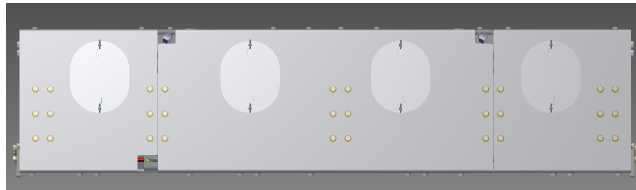

FIGURE 3 – CYLINDER MANUAL SHUT-OFF VALVE ACCESS COVER
1. Open the valve access cover to the fuel cylinder by turning the butterfly bolts counterclockwise. Locate the Fuel Cylinder Manual Shut-Off Valve. (Figure 3)